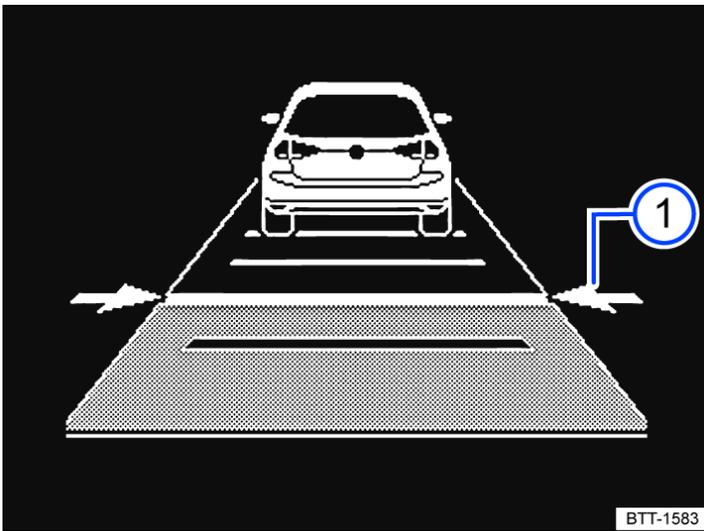

Fig. 1 On the instrument cluster display: set distance ① (illustration, the ACC is controlling distance).
The instrument cluster display shows the chosen setting → Fig. 1 ①. Please observe any country-specific regulations for the minimum distance.